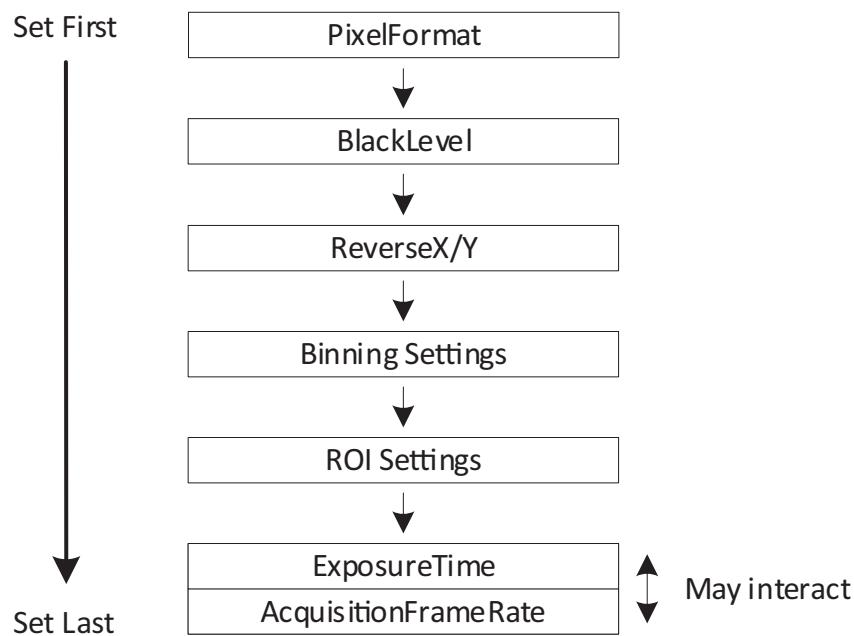

Figure 100: Interdependencies between controls
The conversion between time and clock cycles affects control values. Controls for pixel format, bandwidth, ROI, and exposure time are related to each other. Changing values for one control can change values for another control. For example, frame rates can be reduced when **MIPPI Data Format** is changed subsequently. Figure 100 shows the interdependencies.
- To avoid readjustments, apply settings in the order shown in Figure 100.